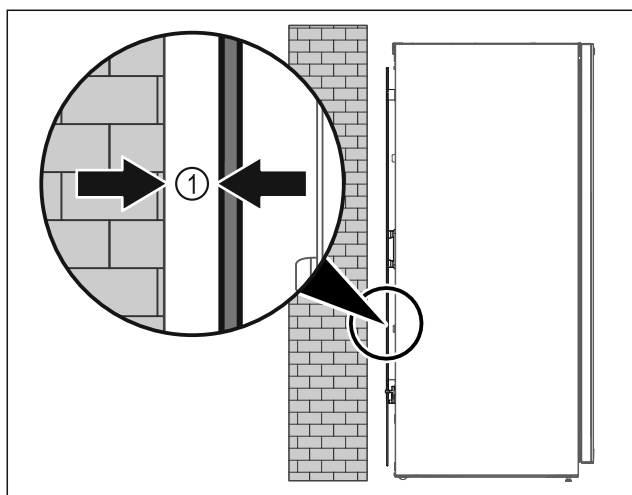

Fig. 37
- ▶ Set up the appliance either free-standing or directly against a wall at a minimum distance of 5 mm Fig. 37 (1).